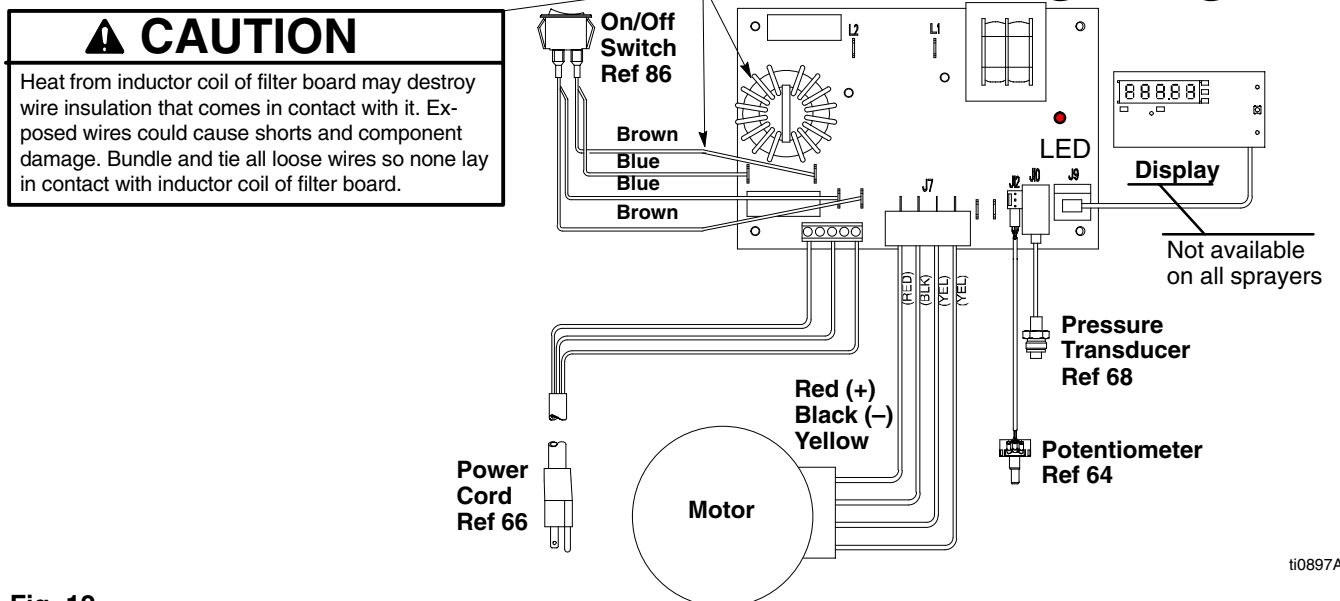

Fig. 12
2. Fig. 12. Remove four screws (60) and pressure control cover (49). Disconnect display connector (B).
3. Remove two screws (108) and control panel (67).
4. Disconnect four wires (A) at ON/OFF switch (86).
5. Squeeze inside tabs on ON/OFF switch (86) and remove from control panel (67).